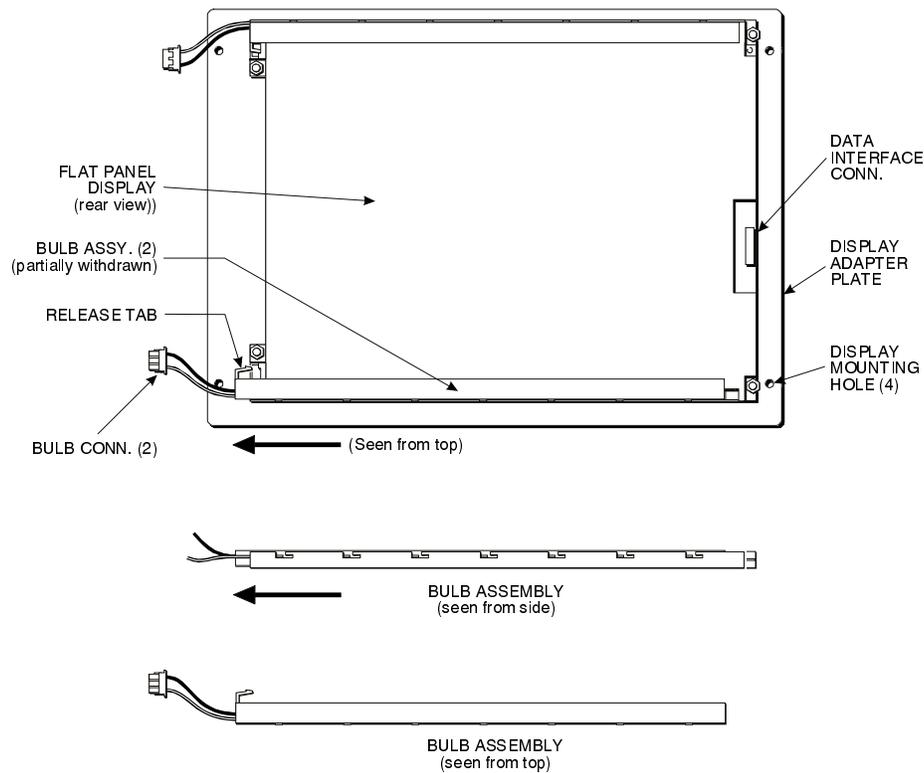

Figure D-6. Model #KCB8060BSTT - Rear View
10. Referring to Figure D-6, depress the tab at the end of the bulb assembly to release it.